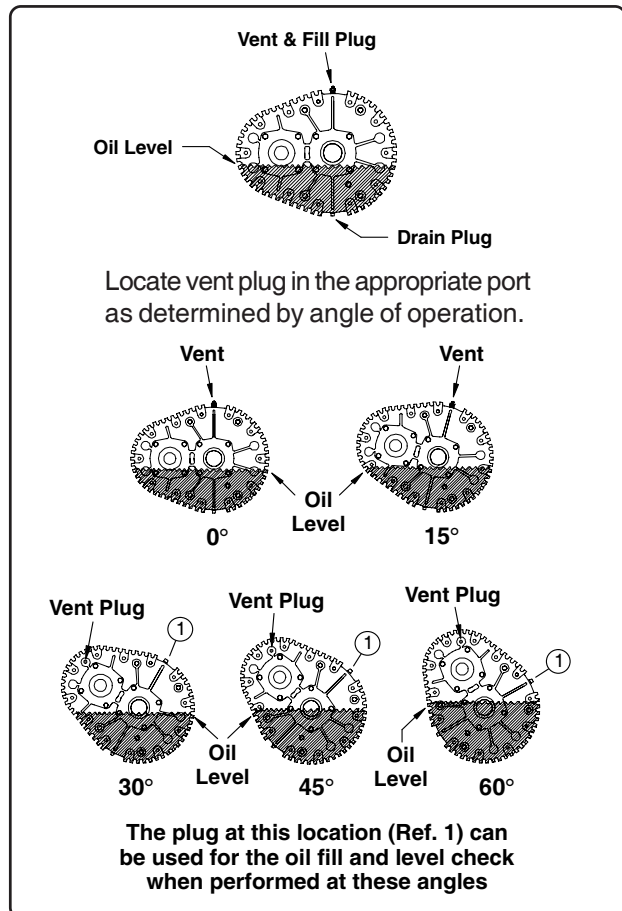

Fig. 20
1. With conveyor in the full down position, remove the vent/fill plug from the top of the gearbox as shown in Fig. 20 (when reinstalling the vent plug, locate vent plug in appropriate port as shown in Fig. 20).